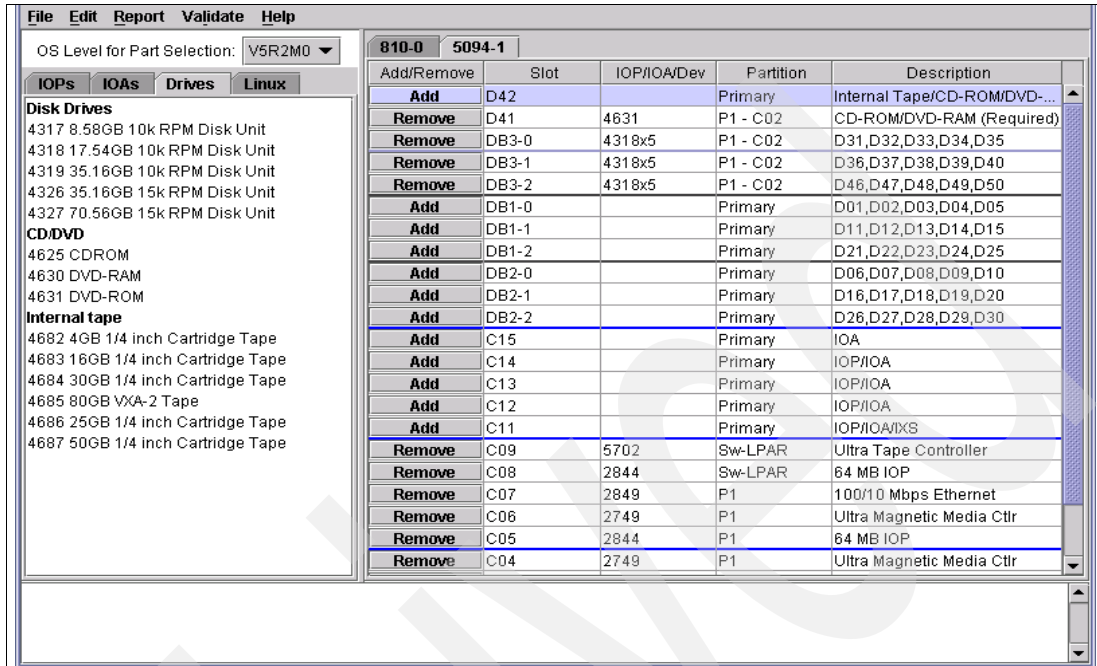

Figure 9-6 Example window features and towers
- d. Select applicable features (IOPs, IOAs, Disk, Towers, etc.). To add a feature first select the **IOP**, **IOA**, **Drives** or **Linux** tabs. Then select the feature and click **Add** next to the desired slot or location (Figure 9-6).